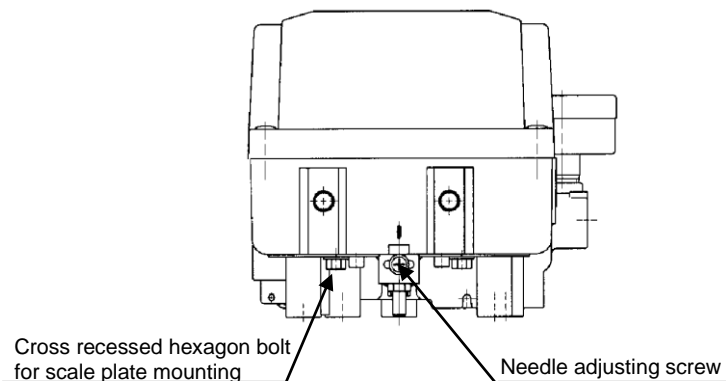

Fig. 48
- (2) Stop the actuator open degree in the middle (50% of positioner input current), and adjust the indicator position so that the indicator position match with gauge at 50% (See Fig. 48). If indicator position does not match with 50% of the gauge even if adjusted, adjust the fork lever unit angle correctly referring “■Initial Adjustment” \*1.